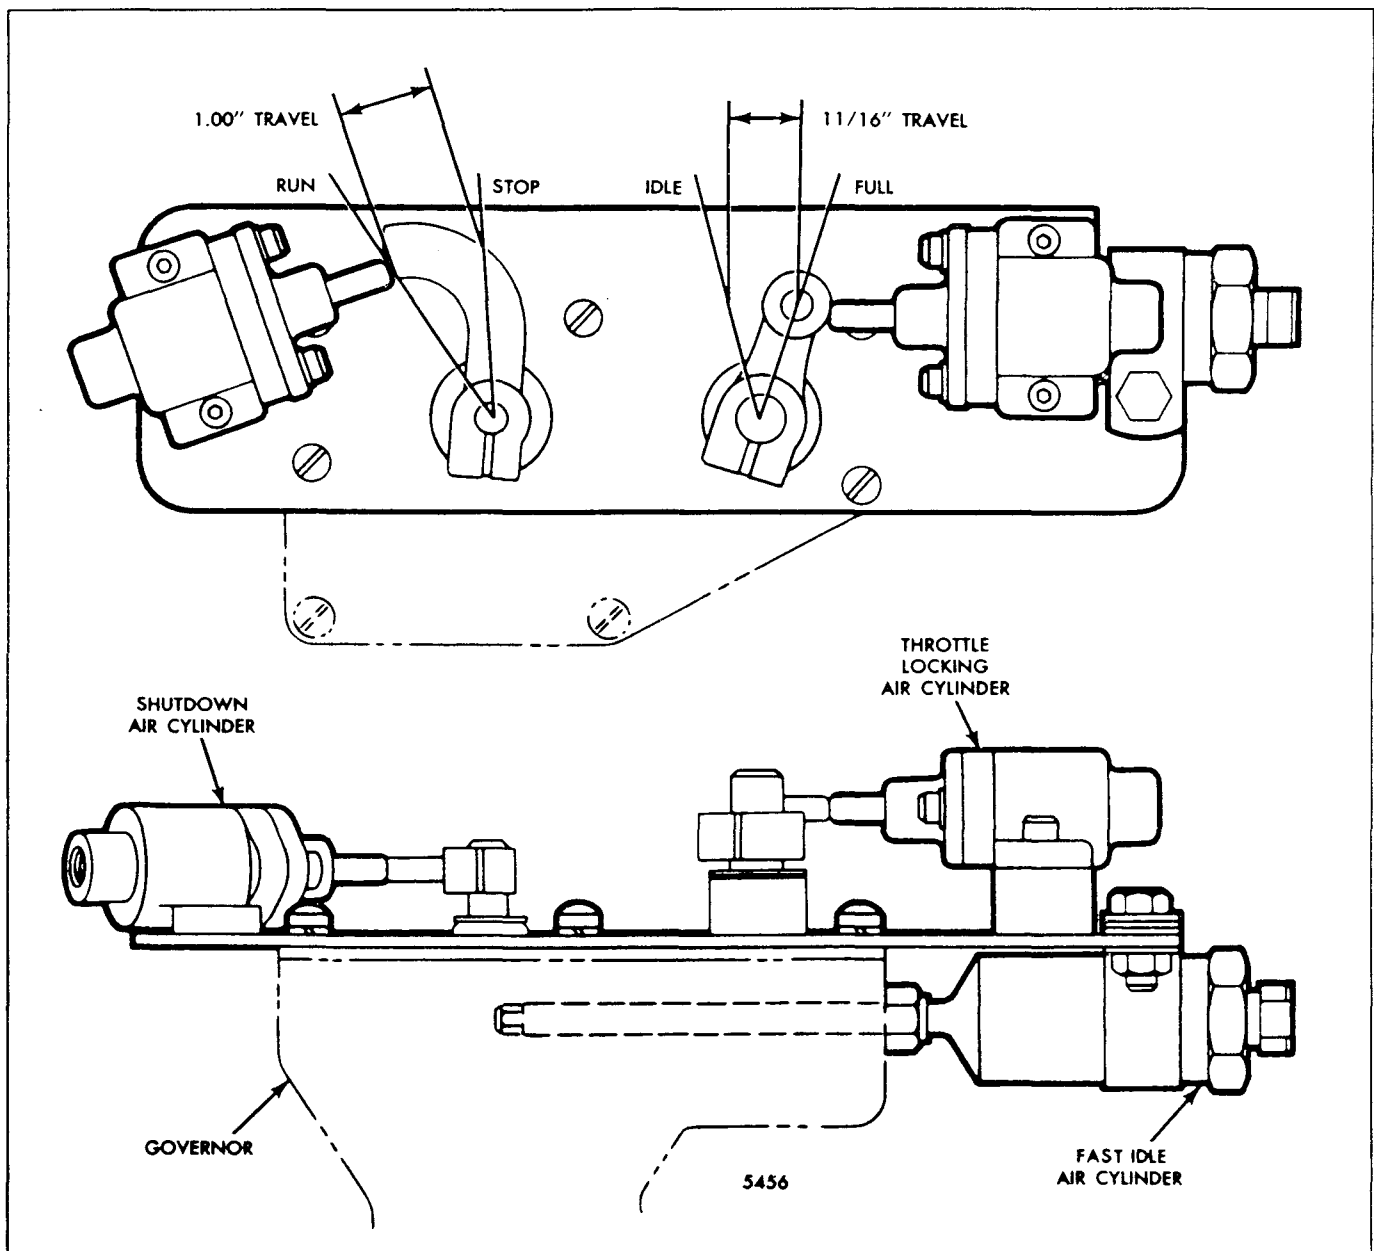

Fig. 1 - Governor with Fast Idle Cylinder
8. Screw the adjusting shaft into the adjusting shaft retainer all the way in as shown in Fig. 1.
Install the governor as outlined in Section 2.7.1.1, then connect the manual control flexible shaft to the governor spring housing (Fig. 1).
The fast idle system consists of a fast idle air cylinder installed in place of the buffer screw and a throttle locking air cylinder mounted on a bracket fastened to the governor cover (Fig. 1). An engine shutdown air